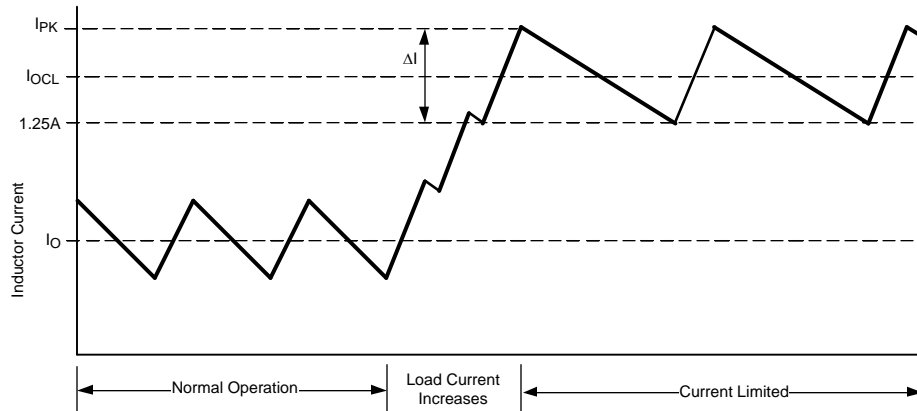

Figure 7. Inductor Current - Current Limit Operation
Figure 7 illustrates the inductor current waveform. During normal operation the load current is  $I_O$ , the average of the ripple waveform. When the load resistance decreases the current ratchets up until the lower peak reaches 1.25A. During the Current Limited portion of Figure 7, the current ramps down to 1.25A during each off-time, initiating the next on-time (assuming the voltage at FB is <2.5V). During each on-time the current ramps up an amount equal to:
The current limit threshold can be increased by connecting an external resistor between  $S_{GND}$  and  $I_{SEN}$ . The external resistor will typically be less than 1Ω. The peak current out of SW and  $I_{SEN}$  must not exceed 3.5A. The average current out of SW must be less than 3A, and the average current out of  $I_{SEN}$  must be less than 2A. Therefore  $I_{PK}$  in Figure 7 must not exceed 3.5A, and  $I_{OCL}$  must not exceed 2A.
The lesser of Equation 12 and Equation 13 is then used in Equation 11. If IOR(MAX2) is used, the maximum VIN is used in Equation 11. The next larger value should then be used for L1. If IOR(MIN1) is used, the minimum VIN is used in Equation 11. The next smaller value should then be used for L1. L1 must be rated for the peak value of the current waveform (IPK in Figure 7).
**D1:** The important parameters are reverse recovery time and forward voltage. The reverse recovery time determines how long the reverse current surge lasts each time the buck switch is turned on. The forward voltage drop is significant in the event the output is short-circuited as it is mainly this diode's voltage (plus the voltage across the current limit sense resistor) which forces the inductor current to decrease during the off-time. For this reason, a higher voltage is better, although that affects efficiency. A reverse recovery time of ≈30 ns, and a forward voltage drop of ≈0.75V are preferred. The reverse leakage specification is important as that can significantly affect efficiency. D1's reverse voltage rating must be at least as great as the maximum VIN, and its current rating must equal or exceed IPK Figure 7.